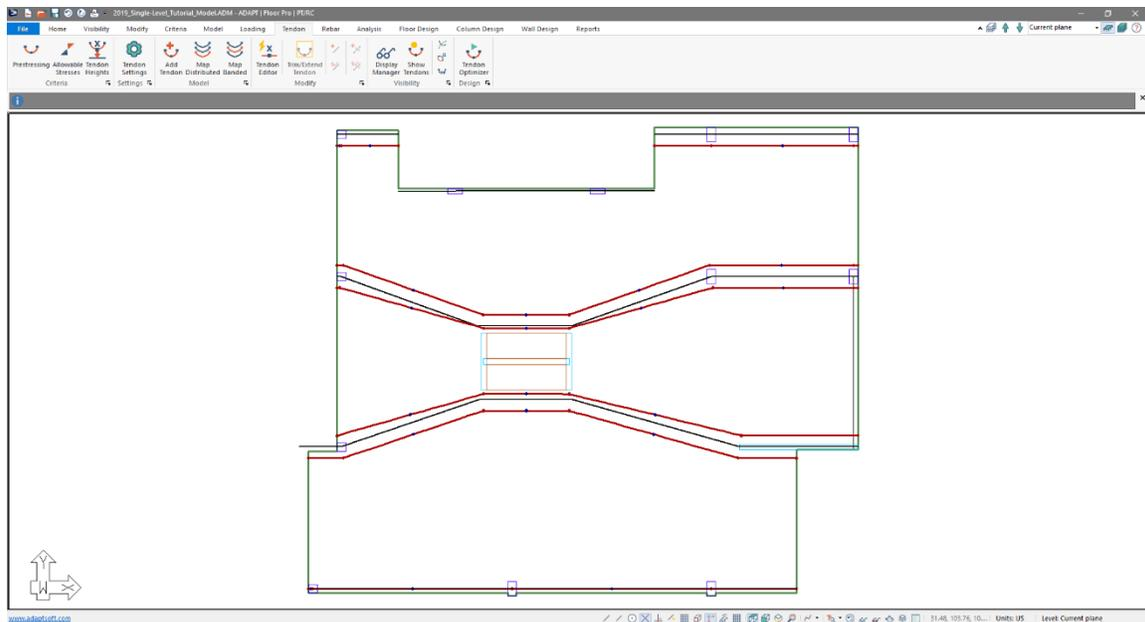

FIGURE 8-17
- Drag your mouse up and place this point of the tendon just above the right most vertical core wall. The tendons should now be outside of the core opening as shown in **FIGURE 8-17**.